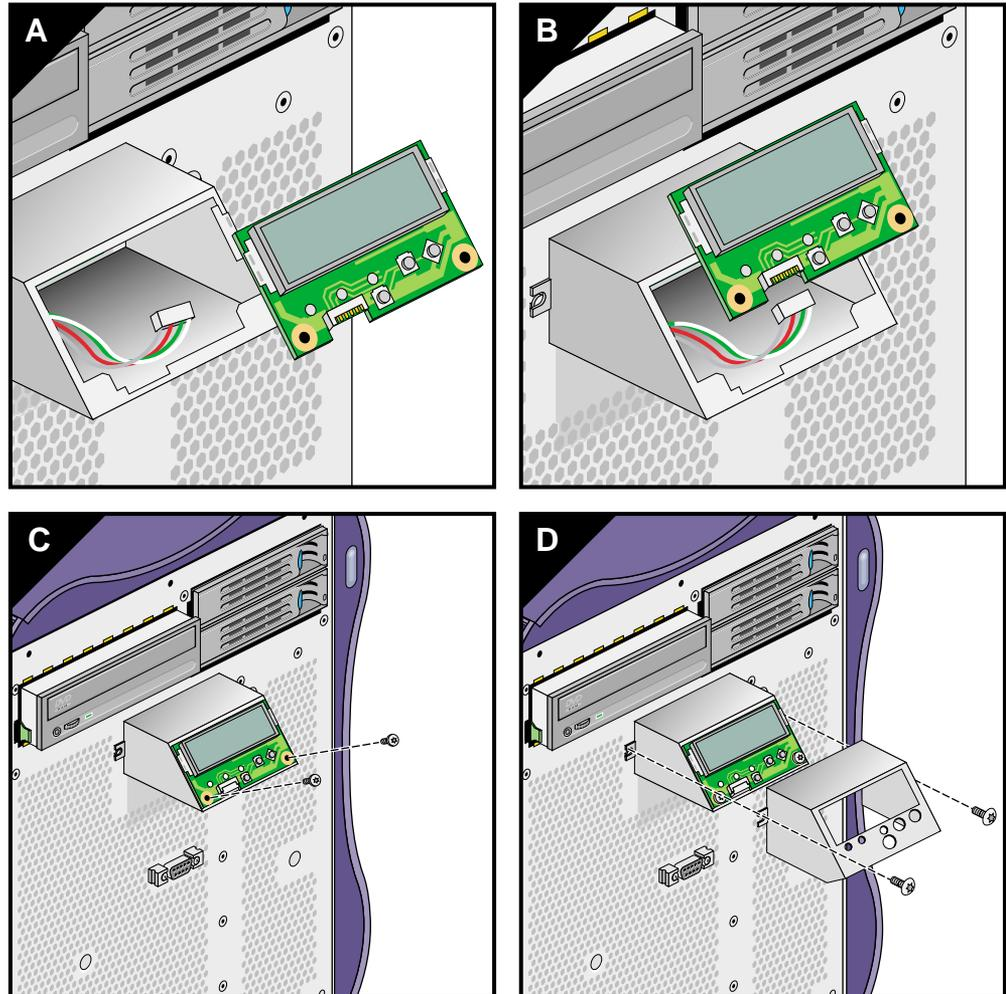

Figure 3-43 Installing the L1 Display Board
5. Connect the L1 display cable to the replacement L1 display board (see Figure 3-43).
6. Install the two screws that secure the L1 display board to its bracket (see Figure 3-43).
7. Align the hooks on the bracket with the holes in the enclosure. Insert the hooks into the holes, and then press down to seat the bracket on the front of the enclosure (see Figure 3-43).
- Slide the outside cover over the L1 display. Then install the two screws that secure the L1 display to the front of the enclosure (see Figure 3-43).